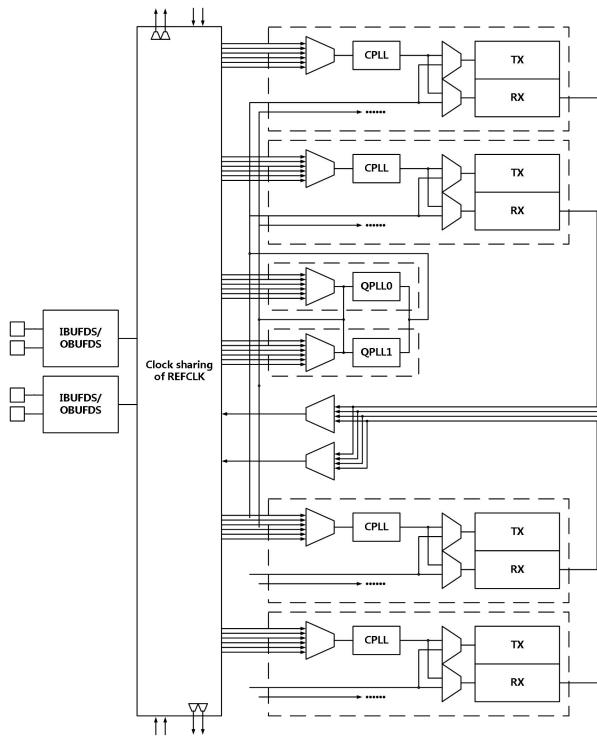

Figure 4-6 Overall Structure of GTX
The overall structure of the GTX lower-power four-channel high-speed serial transceiver is illustrated in Figure 4-6, including four channels and LC VCO phase-locked loop (QPLL). Each high-speed serial transceiver channel contains a transmit (TX) data channel and a receive (RX) data channel, together for realizing data transmit and reception. The channel is embedded with a channel phase-locked loop (CPLL) to realize the internal clock of a single channel management. The QPLL provides high-frequency and low-jitter reference clocks for four channels.